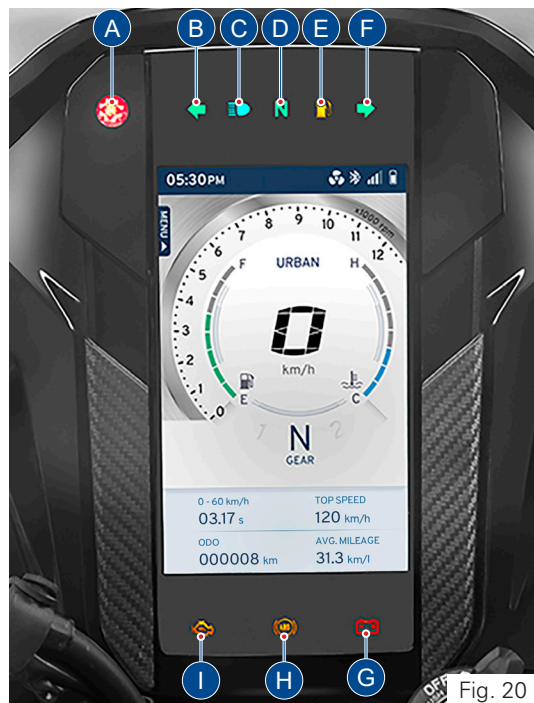

Fig. 20
1) Warning and indicator lights (ref. Fig. 20)
Warning and indicator lights (ref. Fig. 20)